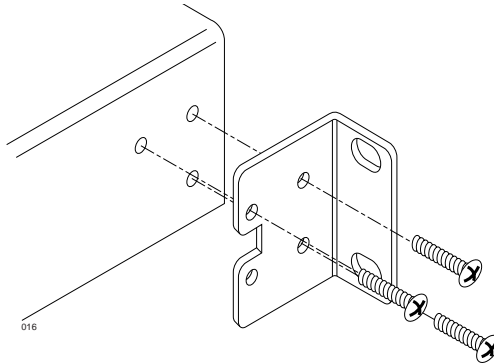
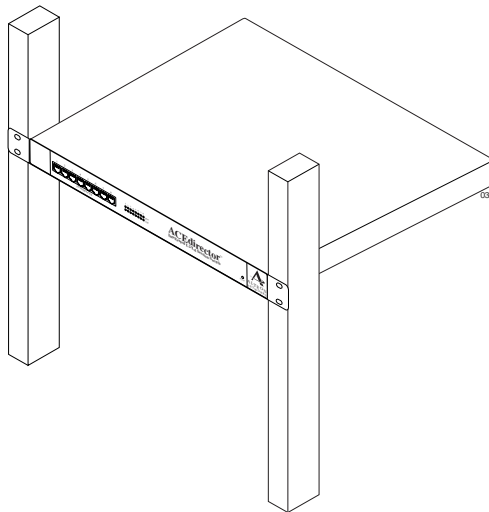

Figure 2-1 Position Mounting Brackets for Rack Mount
Figure 2-2 Rack Mounted ACEdirector
- To mount the unit into an equipment rack, connect the two mounting brackets to the switch using the supplied screws as shown in Figure 2-1, and install the switch as shown in Figure 2-2 using the appropriate screws for your rack-mount system (four 10-32, 12-24, M5X.8-6H, or M6X1-6H type screws).